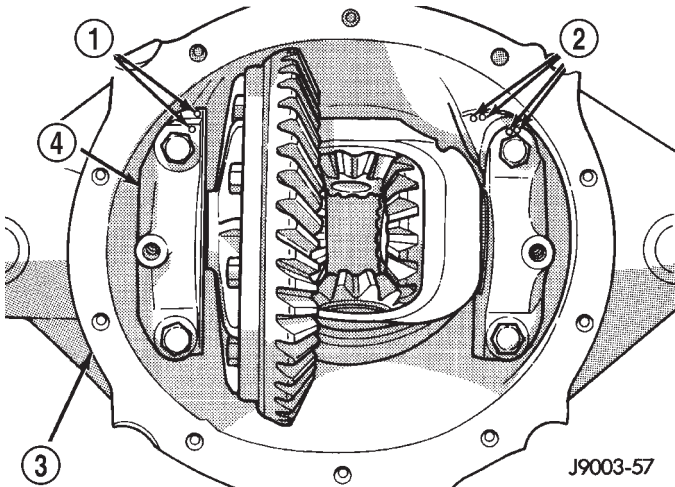

Fig. 17 Mark For Installation Reference
(2) Mark the differential housing and the differential bearing caps for installation reference (Fig. 17).